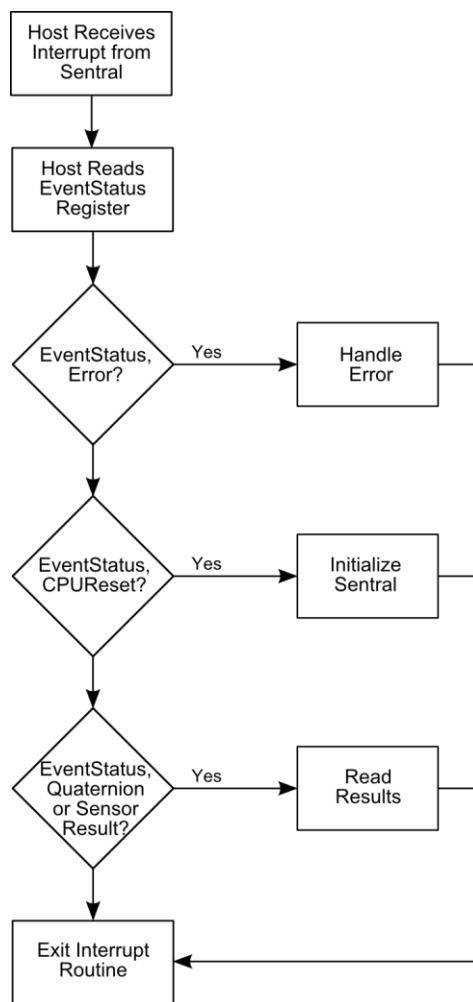

Figure 5-3: SENtral Normal Operation Flow
- d) Interpret and act on the EventStatus register in the priority shown in Figure 5-3. If bit [1], the Error bit, is '1', see Section 5.3.1. If bit [0], the CPUReset bit, is '1', see Section 5.3.2. If bits [2], [3], [4], or [5], the Results bits, are '1', see Section 5.3.1.
Note that reading the EventStatus register clears it. It is possible for more than one bit position to be '1' in the EventStatus register, especially if the host does not always read the EventStatus register after receiving an interrupt. Similarly, if multiple bits are set to '1' in the EventStatus register, once the register is read all the bits will be set to '0'. For this reason the EventStatus register should be processed in the priority shown in Figure 5-3, as information will be cleared for events that are not handled.